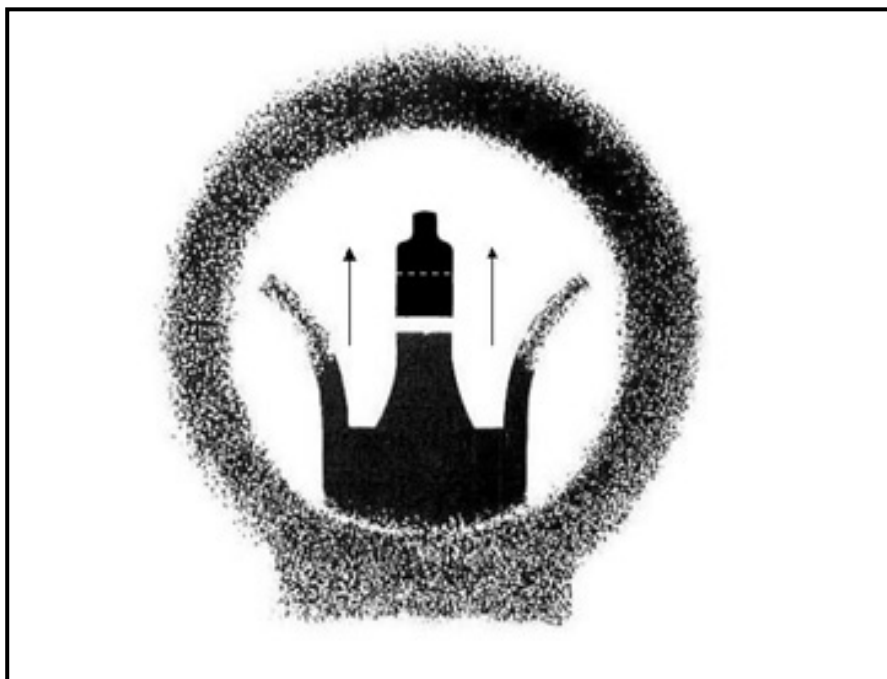

Figure 7-22. Lower weapon-target alignment.
e. **Unassisted Night Fire.** The firer must detect and engage targets without artificial illumination or night vision devices. Potential target areas are scanned. When the target is detected, the firer should engage it using a modified quick-fire position. The firer should take a few seconds to improve weapon-target alignment by pointing slightly low to compensate for the usual tendency to fire high (Figure 7-22). Tracer ammunition may provide feedback on the line of trajectory and facilitate any adjustments in weapon-target alignment.